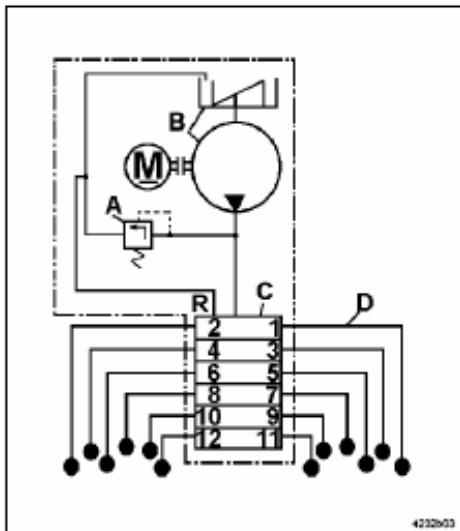

Fig. 34 Example of a QLS 401
- ➔ Disconnect all feedlines (fig. 34, pos. D) of the divider block one after the other. If grease shows under pressure (i. e. at outlet 3) the blockage is located in the line of outlet 3 or in the connected bearing point.